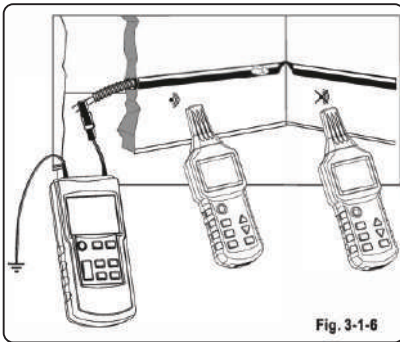

Fig. 3-1-6
- The transmitter is connected to a metal helical tube (metal tube or flexible conduit) and an auxiliary earth wire, as shown in Fig.3-1-6;